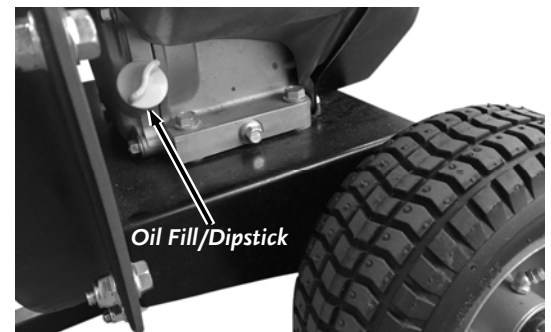

Figure 17
1. Set the machine on a level surface, place a container between the wheels under the unit toward the right side, and remove the Oil Fill/Dipstick on the left side of the machine (**Figure 17**).